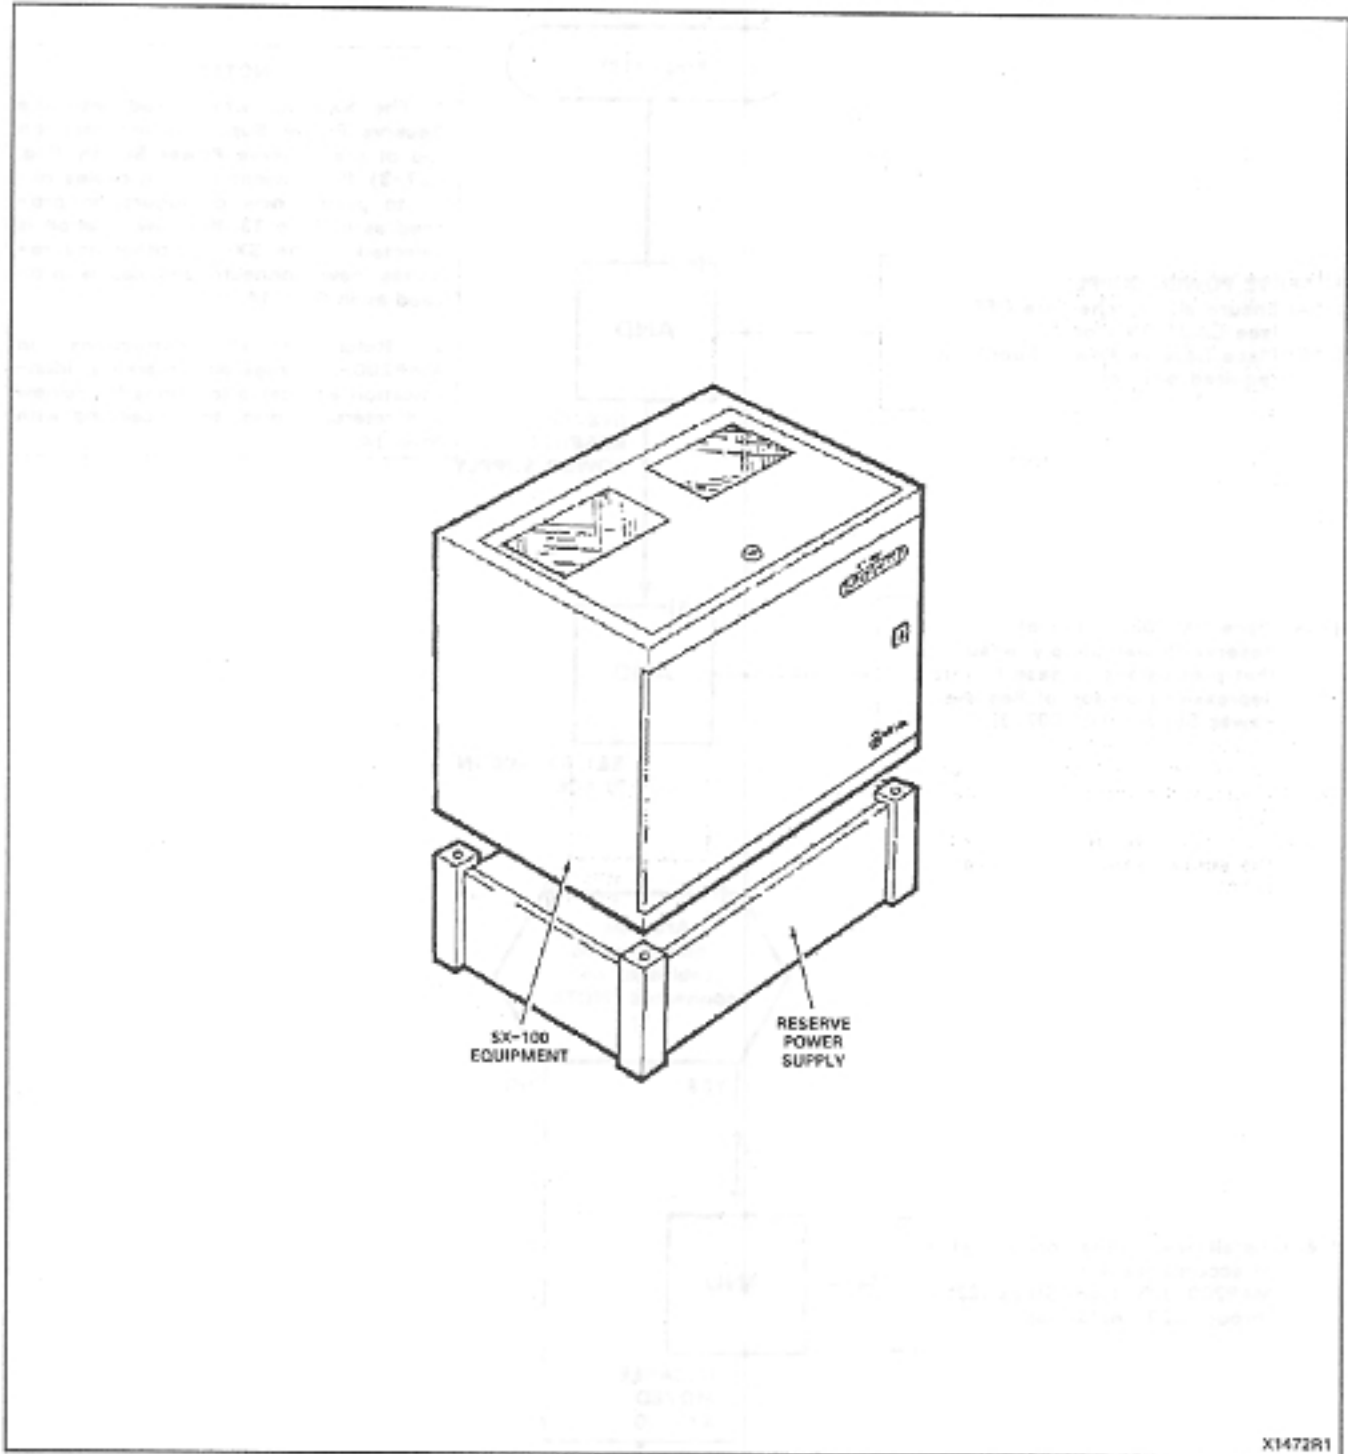

Fig. 607-3 Combined SX-100/Reserve Power Supply Grouping
1. The SX-100, when used with the Reserve Power Supply is mounted on top of the Reserve Power Supply (Fig. 607-3). If sufficient slack in cables exist to permit new configuration proceed as in Step 13. If a new location is selected or the SX-100 otherwise requires new connectorized cables proceed as in Step 14.